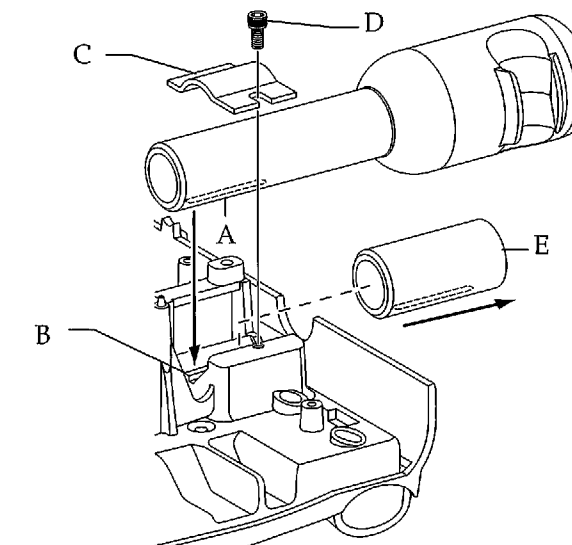

Figure 98. Slide the accessory holder slot onto the ridge in the mounting area. (A) slot, (B) ridge; (C) bracket; (D) mounting screw; (E) plug
4. Secure the holder to the structural platform with the bracket and mounting screw (see Figure 98).